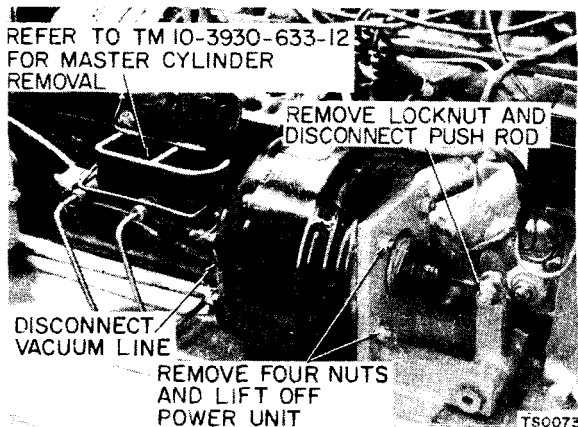

Figure 2-6. Vacuum Power Unit Installation.
(1) Turn off engine and set parking brake.
(2) Raise hood and remove the left side hood panel, to expose the brake power unit as shown in figure 2.6.